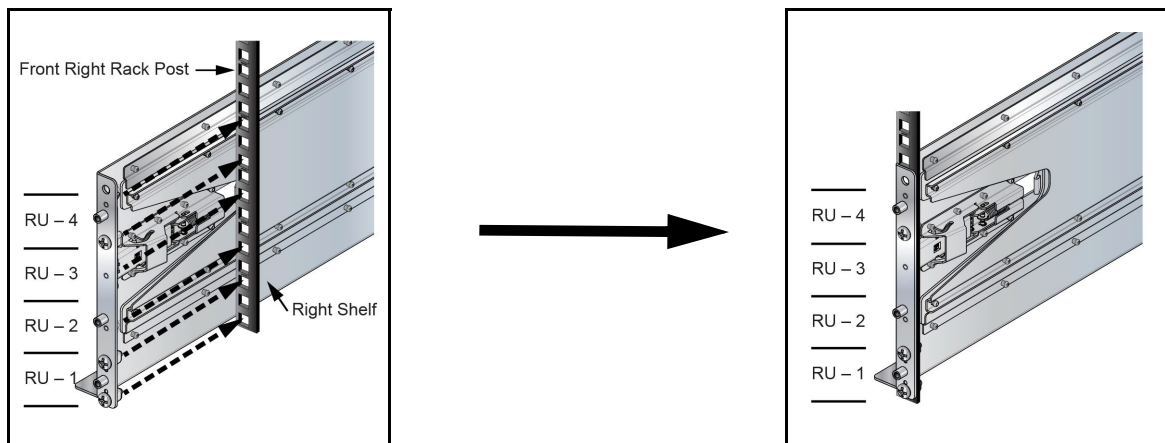

Figure 8: Attaching the Right Shelf
Step 2 Attach the front side of the shelf to its corresponding front rack post by inserting the shelf-side rack plugs and guide pins into post slots (Figure 8).